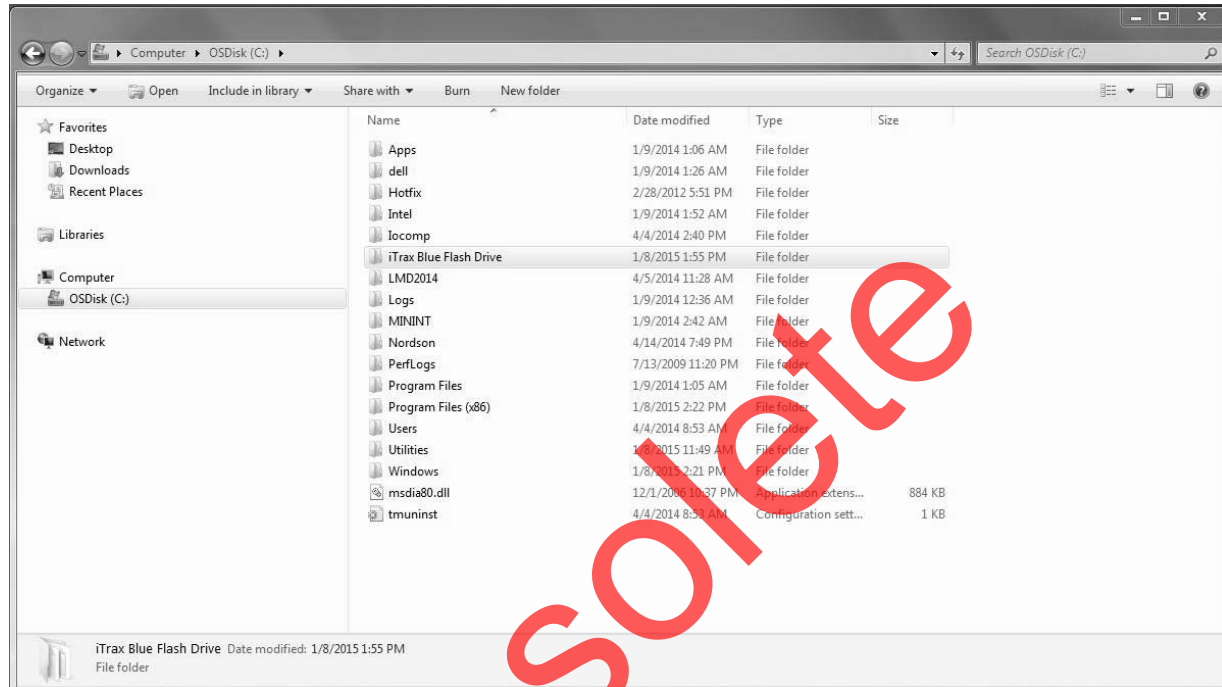

Figure 18 Creating the iTrax Blue Flash Drive Folder
2. See Figure 18. Name the folder *iTrax Blue Flash Drive*.